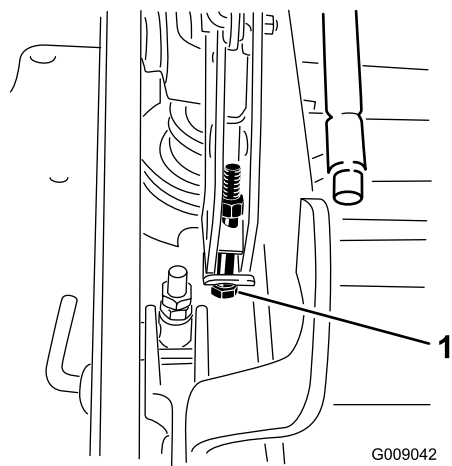

Figure 85
15. If the deck is too low, tighten the single-point adjustment bolt by rotating it clockwise. If the deck is too high, loosen the single-point adjustment bolt by rotating it counterclockwise (Figure 85).